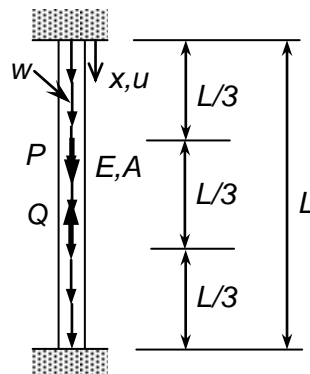

Figure 8
- (b) Figure 8 shows a prismatic bar which is fixed at both ends. Length of the bar is L , elastic modulus is E and cross-sectional area is A . The bar is subjected to a uniformly distributed load w per unit length and two concentrated loads P and Q at points $L/3$ and $2L/3$ from the upper end, respectively. Using piecewise Rayleigh-Ritz method, derive the expression for axial displacement u . Divide the bar into three equal portions and assume linear displacement field for each portion. Express u in terms of point displacements at the ends of each portion. Plot the distribution of u and axial stress σ along the bar.